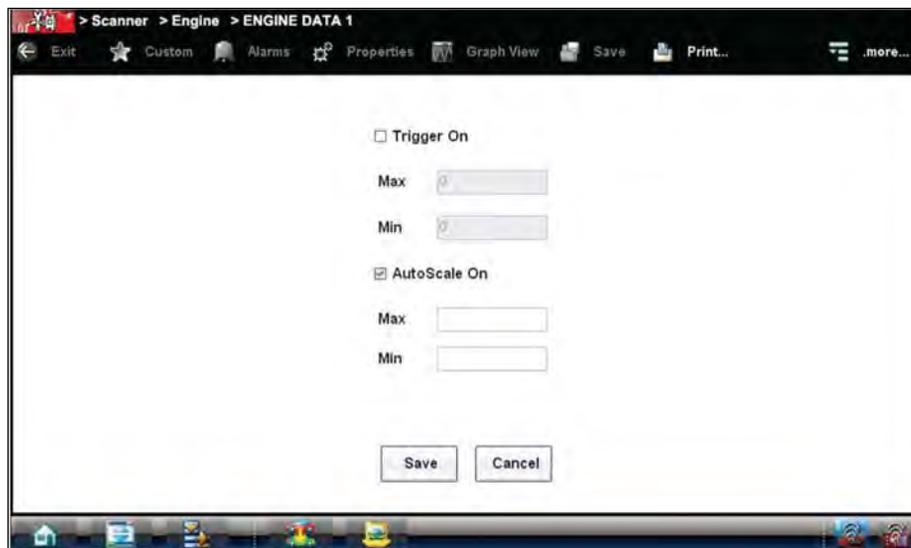

Figure 5-20 Sample manual scale selection
2. From the Graph Properties dialog box (Figure 5-20), select **Auto Scale On**.